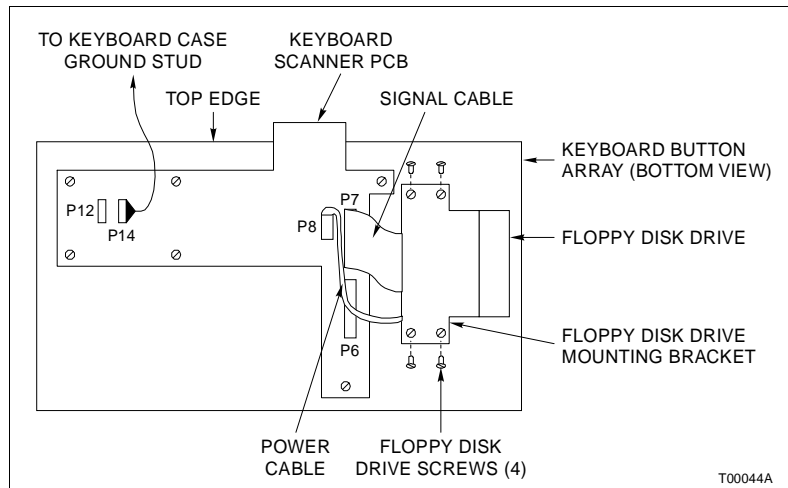

Figure PR61-2. Floppy Disk Drive Replacement
4. Remove the ground wire from P14 on the keyboard scanner PCB (Fig. PR61-2).